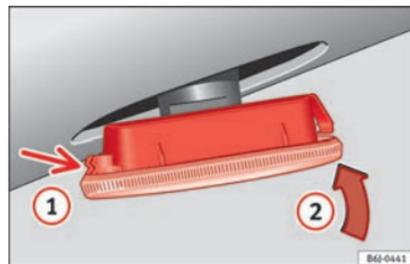

Fig. 108 Turn signals.
- First fit the turn signal in the opening in the chassis, fastening the tabs **1** » Fig. 108, and then fit in the bulb as shown by the arrow **2** » Fig. 108.